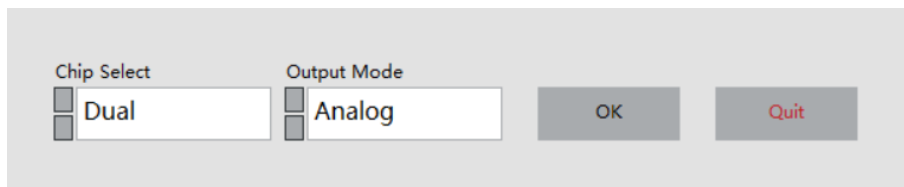

Figure 4.1.1 Programming interface selection
- Click on the text such as 'Dual-Chip' or 'Analog Output' in Figure 4.1.1. In the drop-down menu, select either 'Single-Chip' or 'Dual-Chip' options. After selecting the corresponding output mode, click the "OK" button to enter the programming interface accordingly.